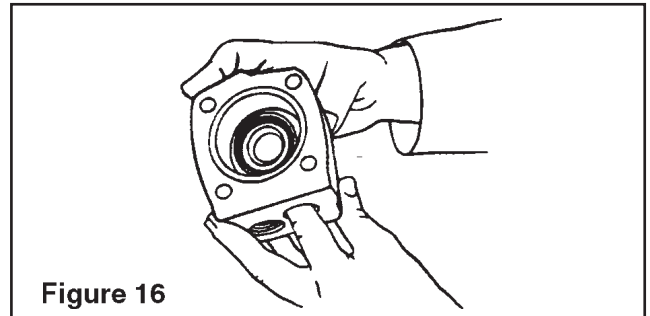
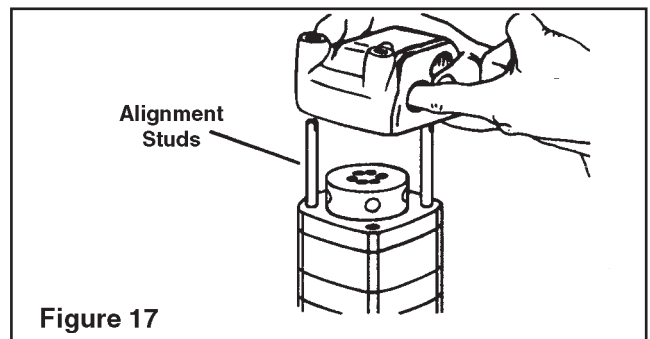

Figure 16
Figure 17
39. Insert your finger through port of housing. Apply pressure to side of balance ring as shown in Fig. 16. Hold the ring in position until valve housing is in place. Install valve against valve plate as shown in Fig. 17.